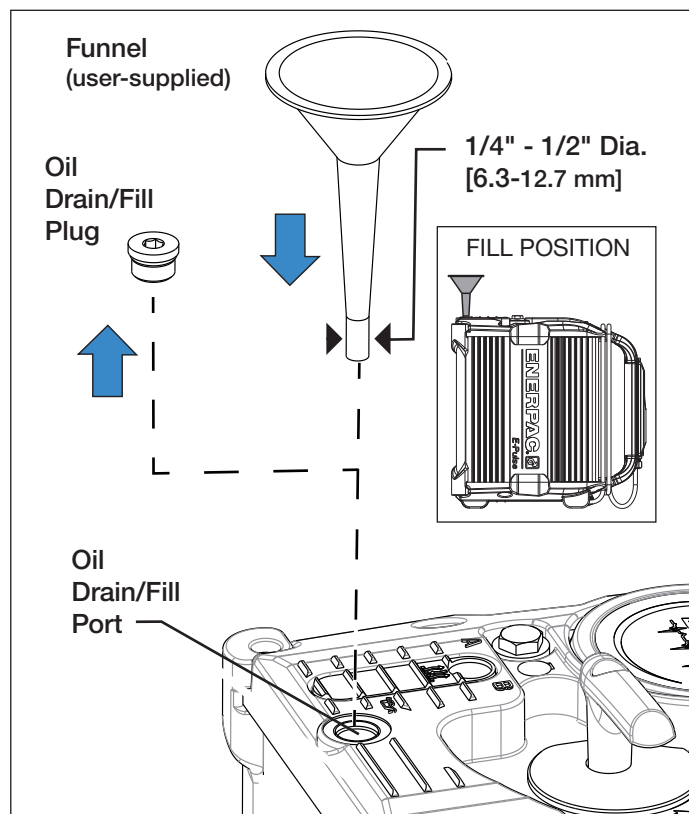

Figure 13, Adding Oil
6. Place the pump on a stable and level work surface, with the front cover facing UP, and the rear cover supported by the work surface. See Figure 13.
- Always use a funnel when adding oil. To avoid spillage and to ensure that pump internal venting functions properly during filling, funnel neck outer diameter must not exceed 1/2 inch [12 mm] or be less than 1/4" [6.3 mm]. Refer to Figure 13.